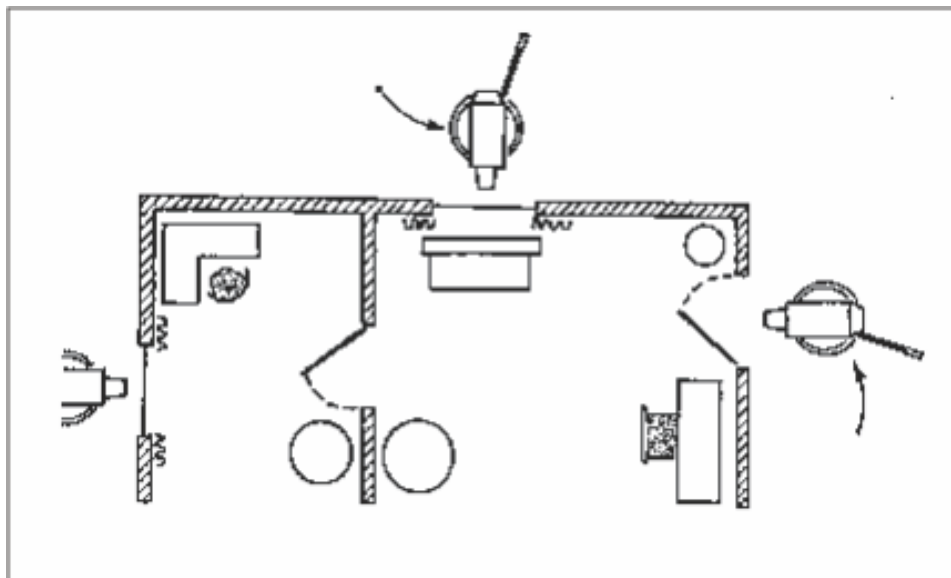

Figure F-14. Diagram of a Multiple Set Illustrating a Reverse Angle
- Another element to consider when using a "closed set" is the difficulty of microphone placement, especially if the program requires the use of a boom. Not only is boom movement restricted, but boom shadow is likely to be a problem as well (Figure F-14).